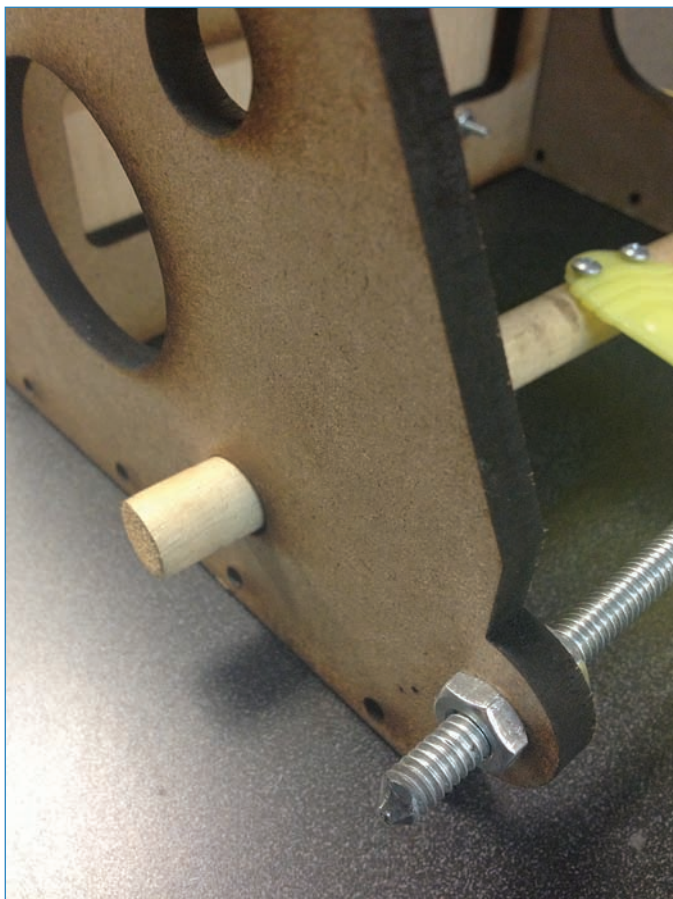

FIGURE 13.11 The threaded rods help secure the chassis.
3. Insert the threaded rods with locking washers and nuts, as shown in Figure 13.11. Tighten the hardware so the sides of the chassis don't move.